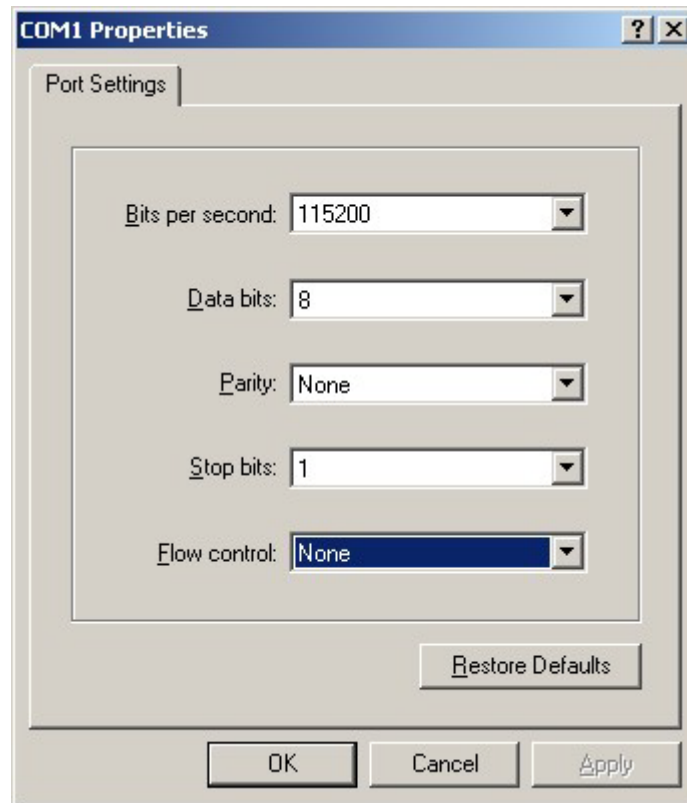

Fig. 3.1.3 Serial ports parameter setup
Step 3’: to select the communication port. Select “com1” communication port in Fig3.1.2, press “OK”, the dialogue box as Fig. 3.1.3 will appear.